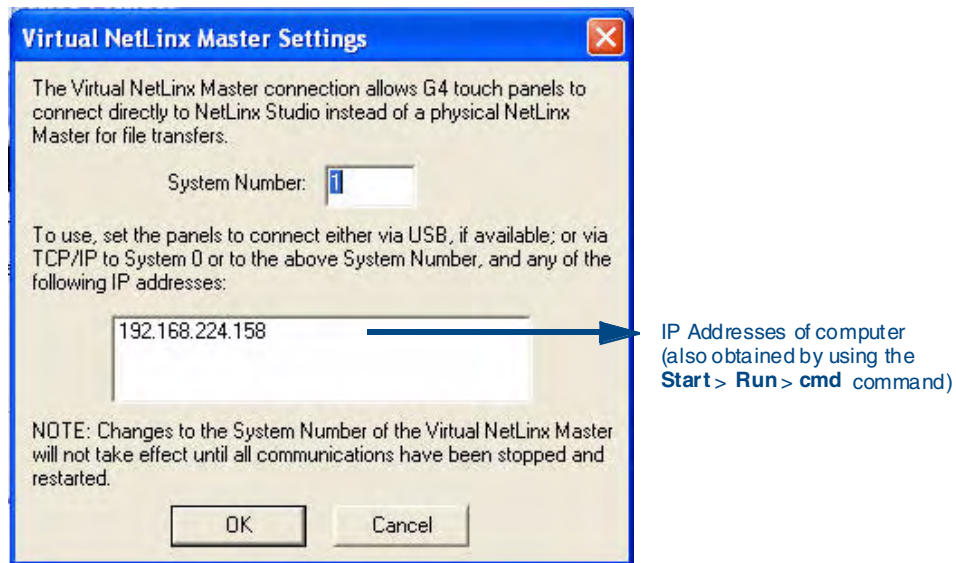

FIG. 41 Virtual NetLinx Master Settings dialog box
6. Click the **Edit Settings** button in the *Communications Settings* dialog to open the *Virtual NetLinx Master Settings* dialog (FIG. 41).